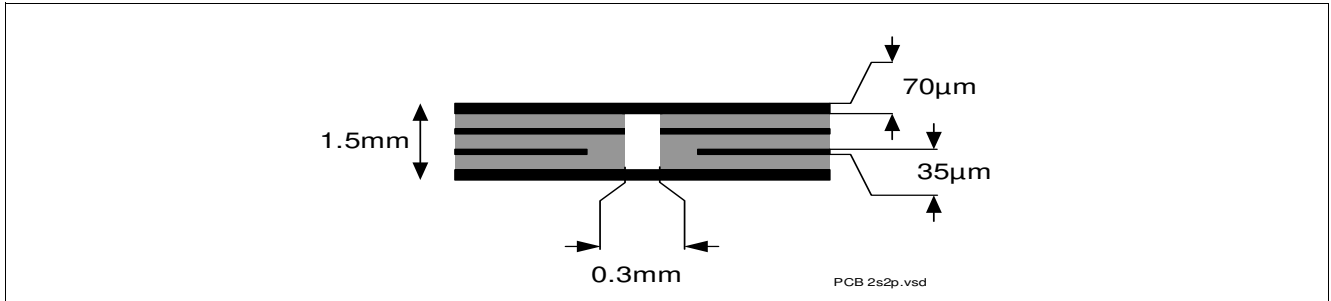

Figure 2 2s2p PCB Cross Section
- 2) Specified R_{thja} value is according to JEDEC JESD51-2,-5,-7 at natural convection on FR4 2s2p board; The product (chip + package) was simulated on a 76.4 x 114.3 x 1.5 mm board with 2 inner copper layers (2 x 70 μm Cu, 2 x 35 μm Cu). Where applicable, a thermal via array under the exposed pad contacts the first inner copper layer. Please refer to Figure 2.